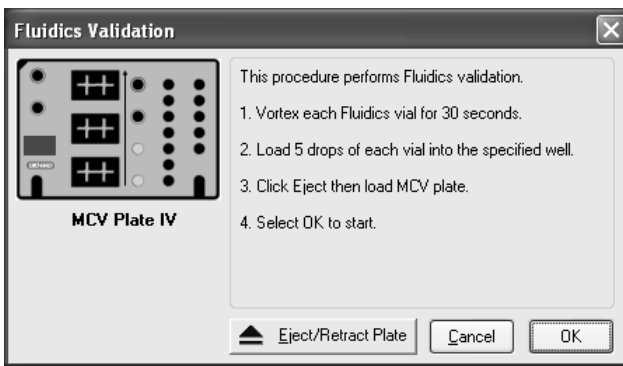

Fig. 6. Fluidics validation dialog.
3. Enter user name and control number. Select OK. The following dialog box will then appear (Figure 6):